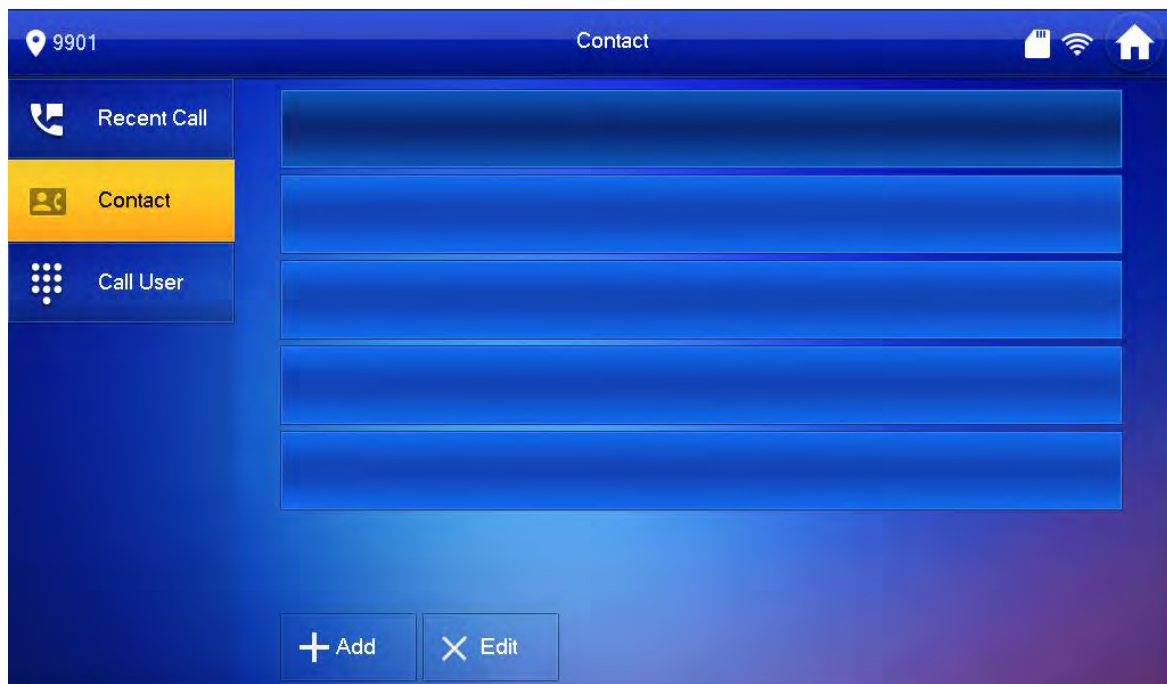

Figure 5-12
Step 1. Select Call>Contact. See Figure 5-12.